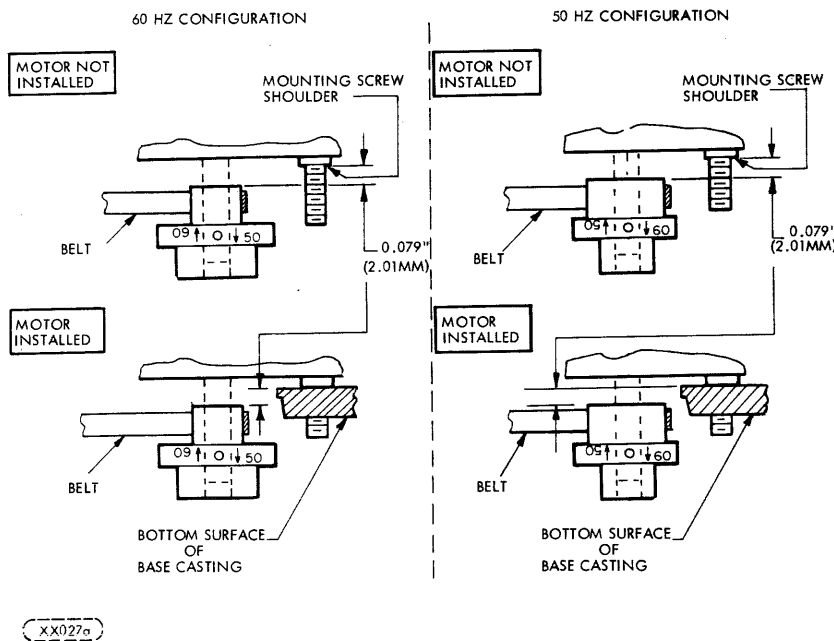

FIGURE 6-15. DRIVE PULLEY REVERSAL
- f. Position pulley allowing 0.079 in. (2.01 mm) \pm 0.010 in. (0.254 mm) between shoulder of motor mounting screws and pulley (Figure 6-15).